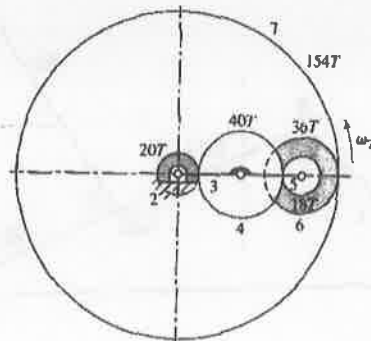

Figure 5
- (b) Prepare displacement diagram and draw a plate cam profile for the following data. The roller follower (10 mm in diameter) raises for 12 mm with uniform velocity during 60° of cam rotation followed by 30° dwell, 24 mm rise again with uniform velocity motion in 90° cam rotation, 60° dwell and 36 mm fall with a harmonic motion for the remaining cycle. Base circle diameter of the cam = 40 mm, and the axis of the roller follower is 10 mm offset to the right of centre of rotation. (13)
14. (a) The internal gear (gear 7) in Figure 5 turns at 60 rev/mm counter clockwise.
- (i) What is the speed and direction of rotation of arm 3? (6)
- (ii) If the arm 3 rotates at 400 rev/mm counter clockwise find the speed and direction of rotation of internal gear 7. (7)